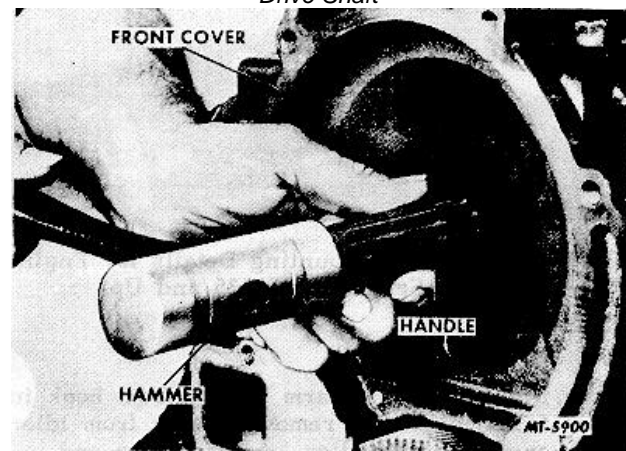

Fig. 62 Removing Injection Pump Drive Shaft Rear Bearing
55. Remove injection pump drive shaft rear bearing from front cover using SE-2098 remover together with handle from SE-1905 remover set (Figure 62).